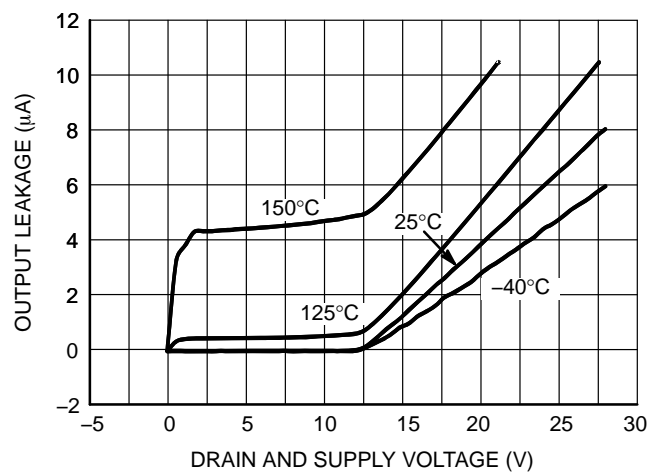

Figure 16. Standby Output Leakage vs. VS
- Refer to Figure 16 for output leakage current behavior.